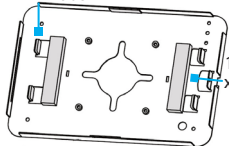

Figure 3
1. Remove the **Adhesive Backing** from the **20 x 15 x 3 mm EVA Pads** (x 4) and affix to the inside edge of the **Tabs** (x 4), located on the inside of the **Rear Plate**. (Figure 3)